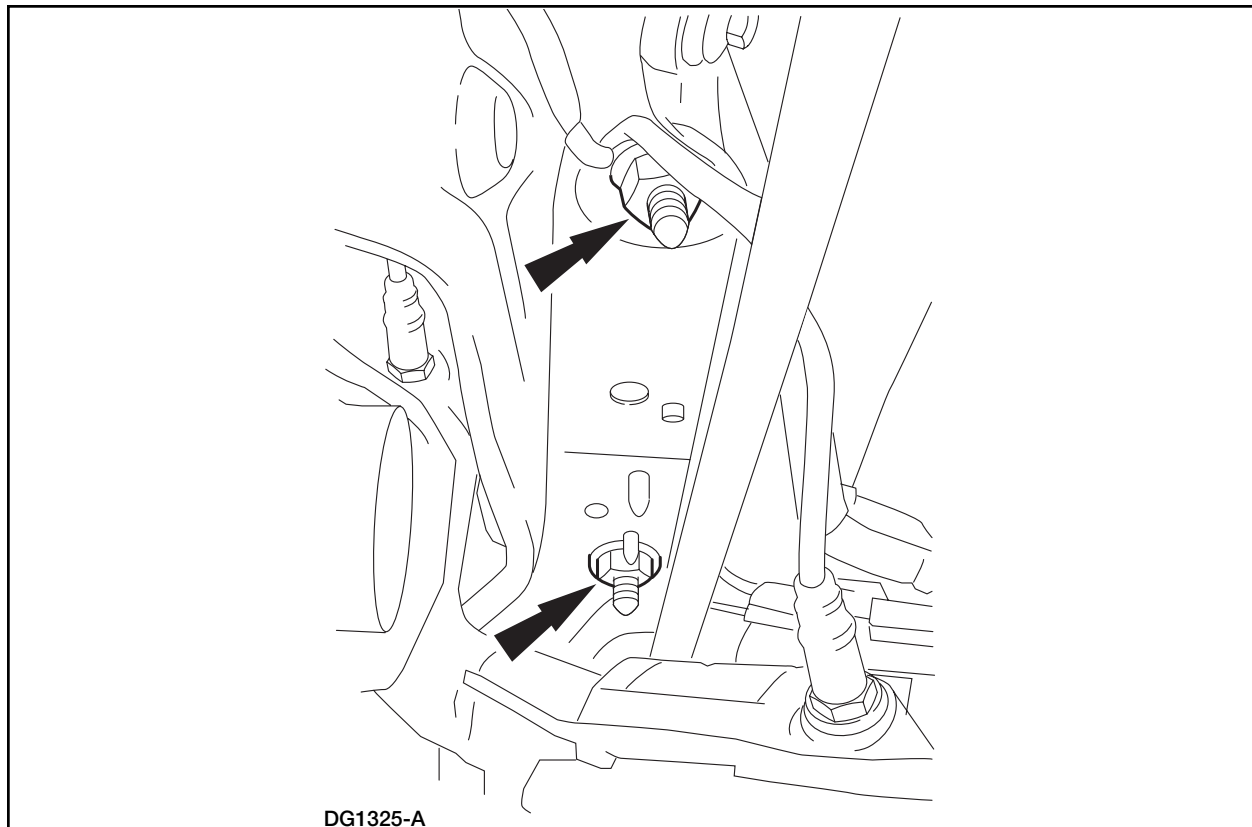

FIGURE 10
20. Remove the steering gear nuts. See Figure 10.